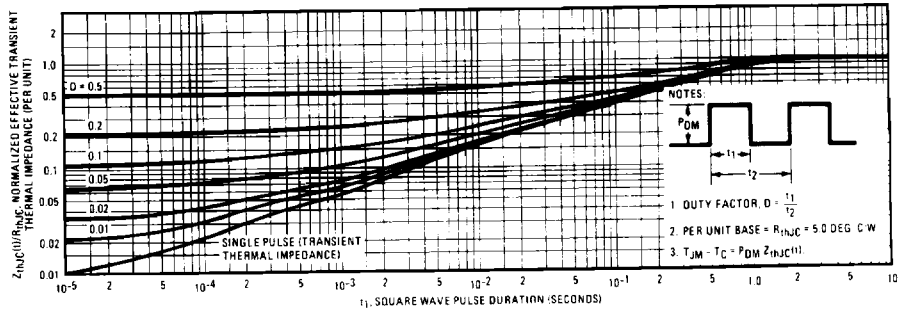

Fig. 5 – Maximum Effective Transient Thermal Impedance, Junction-to-Case Vs. Pulse Duration
2. Repetitive Rating: Pulse width limited by max. junction temperature. See Transient Thermal Impedance Curve (Fig. 5).
① $T_J = 25^\circ\text{C}$ to 150°C . ② Pulse Test: Pulse width $\leq 300\mu\text{s}$, Duty Cycle $\leq 2\%$.
③ Repetitive Rating: Pulse width limited by max. junction temperature. See Transient Thermal Impedance Curve (Fig. 5).